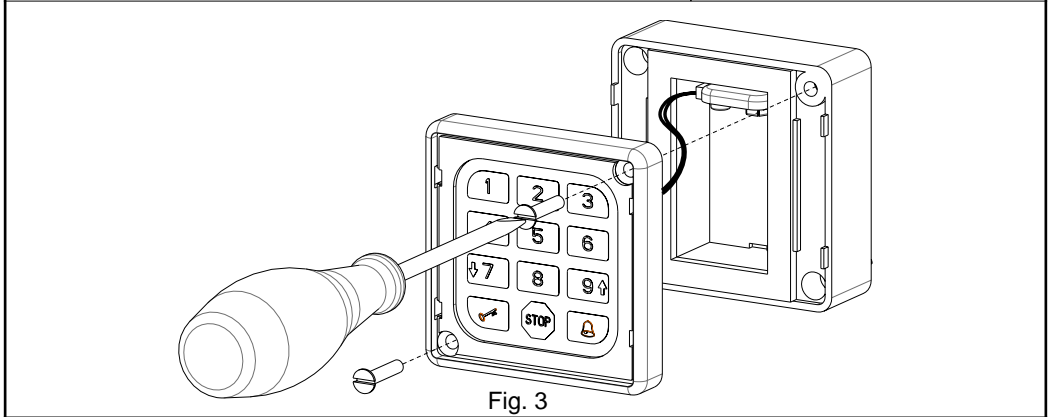

Fig. 3
- after having removed the screws (fig. 3), remove the keyboard front from the battery casing;